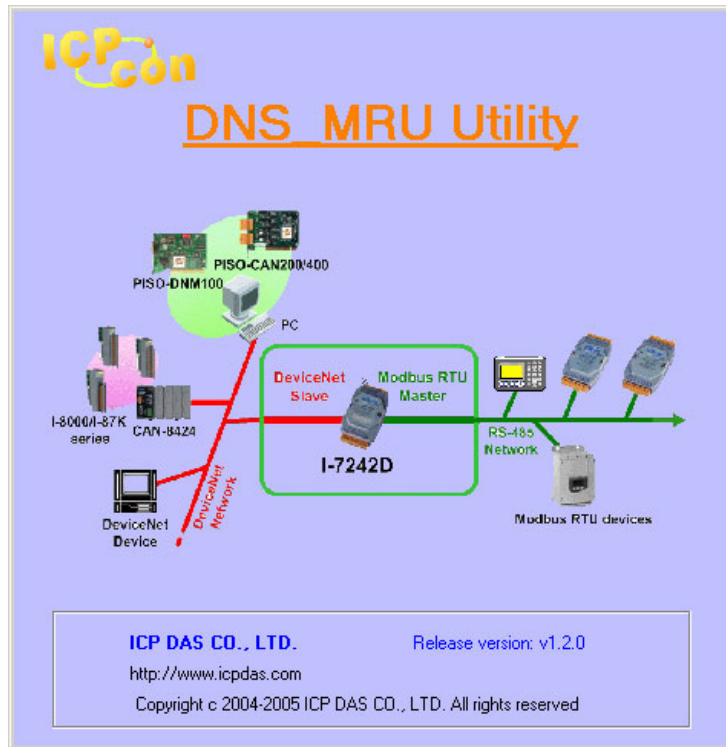

Figure 6-16. "Start-Up"
**Step 2:** Turn on the I-7242D. And then execute the DNS\_MRU file. The start-up figure would be displayed as figure 6-16.